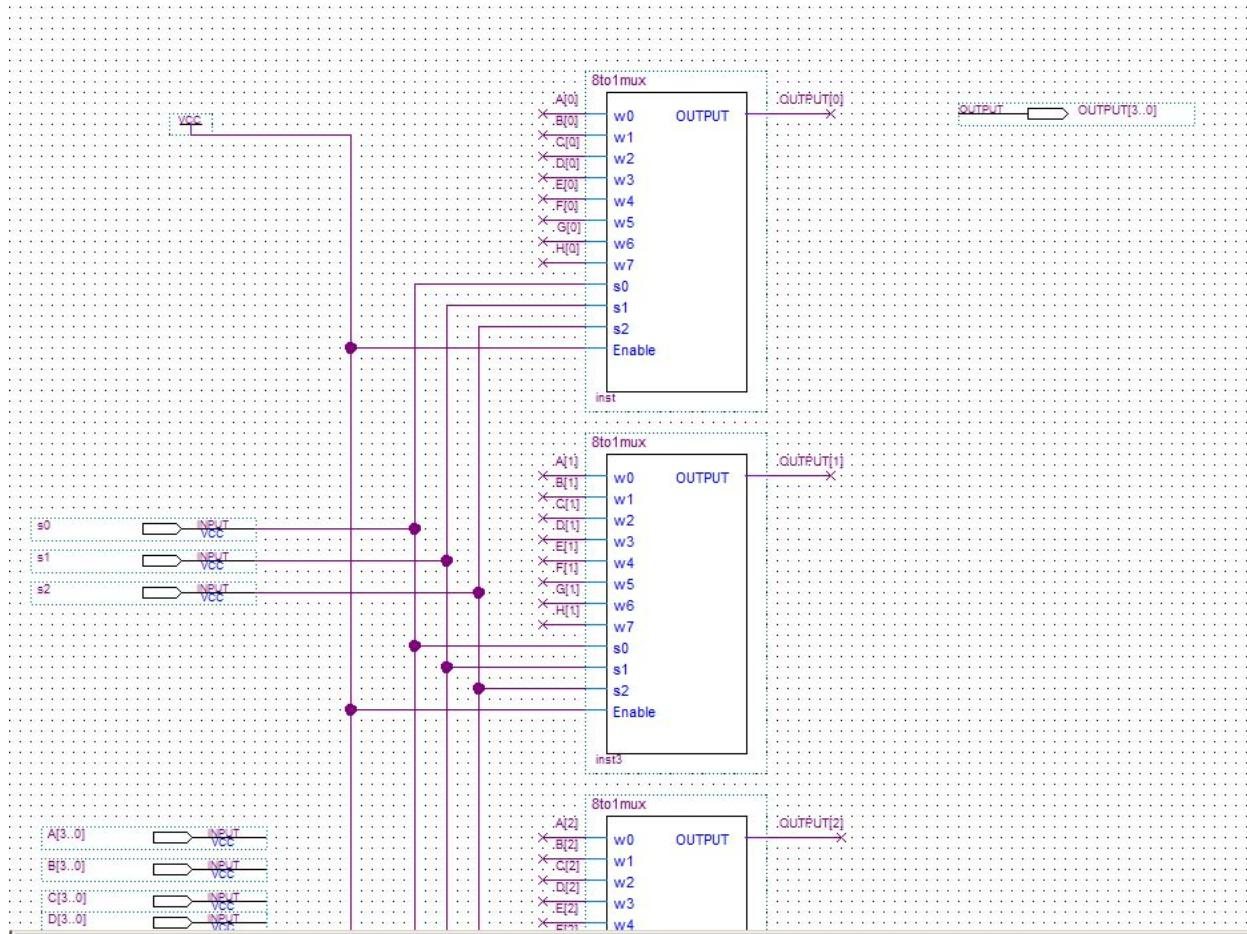

Figure 3. Detail of MUX4 (upper part)
2. We built a symbol named MUX4 (as shown in Figure 3, 4, and 5) in which we included 4 8to1 mux. MUX4 will function as a mux in which the output will be a 4-bit input based on the switches.